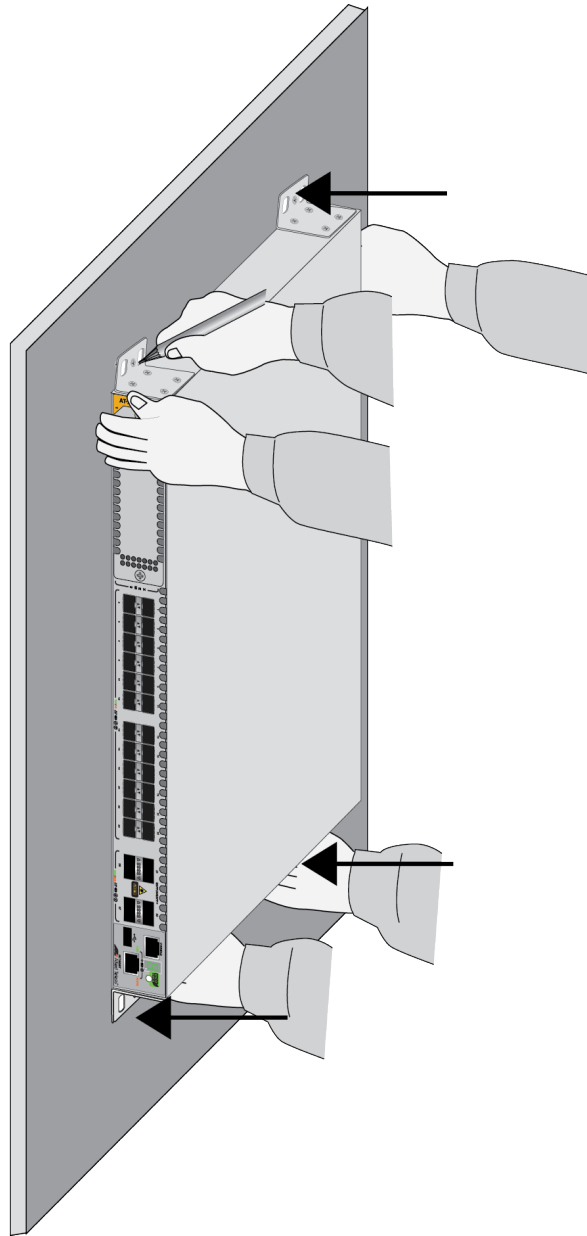

Figure 94. Marking the Locations of the Bracket Holes on a Concrete Wall
3. Have two people hold the switch on the concrete wall at the selected location for the device while you use a pencil or pen to mark the wall with the locations of the four screw holes in the four brackets. Refer to Figure 94 on page 160.